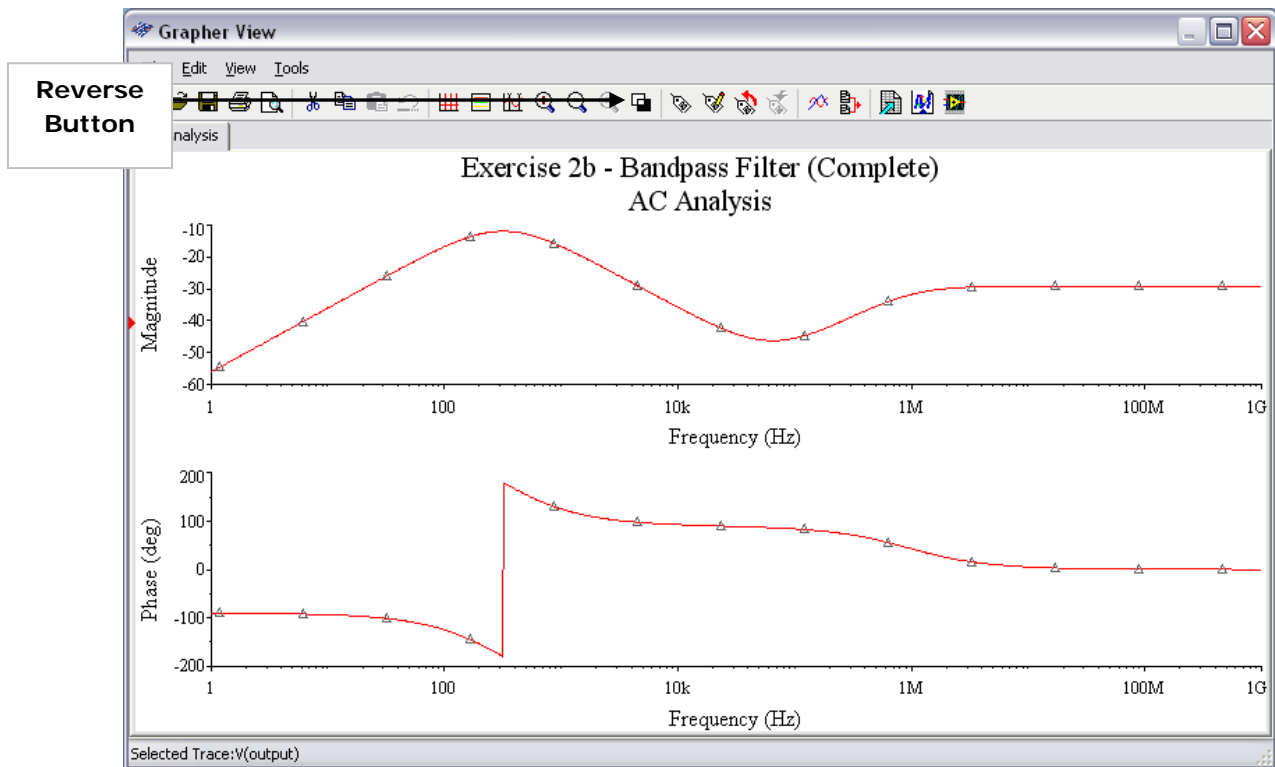

Figure E2-15. AC Analysis of Bandpass Filter
9. The Grapher View is now open. If you see the black background and would like to reverse the color of the background to white, click on the reverse button (as seen in Figure E2-15).